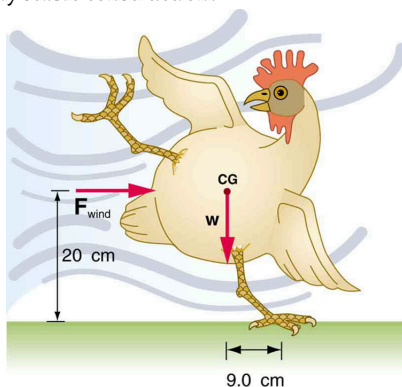

Figure 9.32
11. (a) What force must be exerted by the wind to support a 2.50-kg chicken in the position shown in Figure 9.32? (b) What is the ratio of this force to the chicken's weight? (c) Does this support the contention that the chicken has a relatively stable construction?